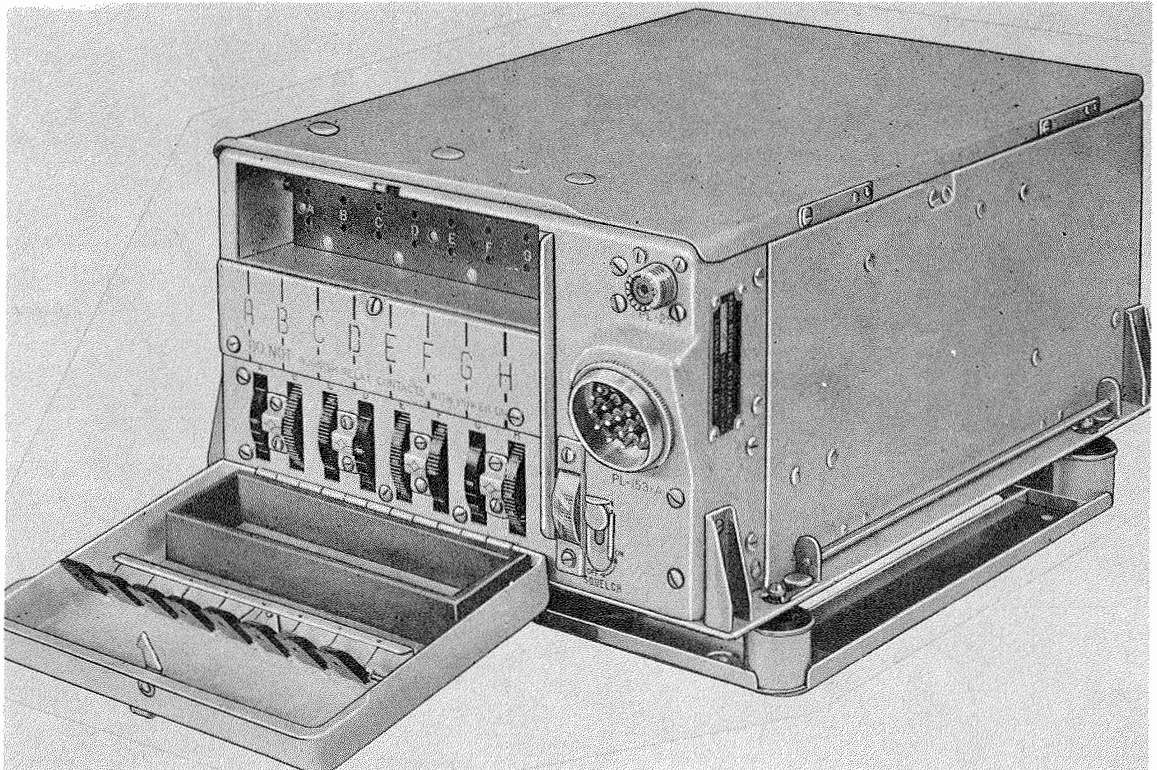

Figure 1-14. Radio Receiver R-77/ARC-3—Crystal Compartment Door Open
on the AN/ARC-36 Receiver is not hinged and must be removed.) Sockets for installing crystals are mounted on the composition strip in this compartment. (See figs. 1-14, 1-16, and 1-18.) Crystal Units DC-11-A, DC-16-A, DC-26-A or CR-1A/AR may be used in Radio Set AN/ARC-3 or AN/ARC-36. Crystal Units CR-18/U are used in Radio Set AN/ARC-49 and a tool for removing the crystal unit is attached to the crystal compartment door. Directly below the crystal sockets in Radio Sets AN/ARC-3 and AN/ARC-36 is a metal plate, which when removed gives access to the crystal relay points for cleaning. On Radio Set AN/ARC-36 it is first necessary to remove Crystal Socket Adapter UG-614A/U. The bottom cover plate of the receiver extends beyond each side of the cabinet approximately $\frac{5}{8}$ inch; mounted thereon is a
(3) On the front panel, just to the right of the eight calibrated thumbwheels, is a frequency indicator dial. (See fig. 1-14.) This dial indicates the channel frequency to which the receiver is tuned and is covered by a plastic window. Also located on the front panel, to the right of the frequency indicator dial, is a squelch adjustment.